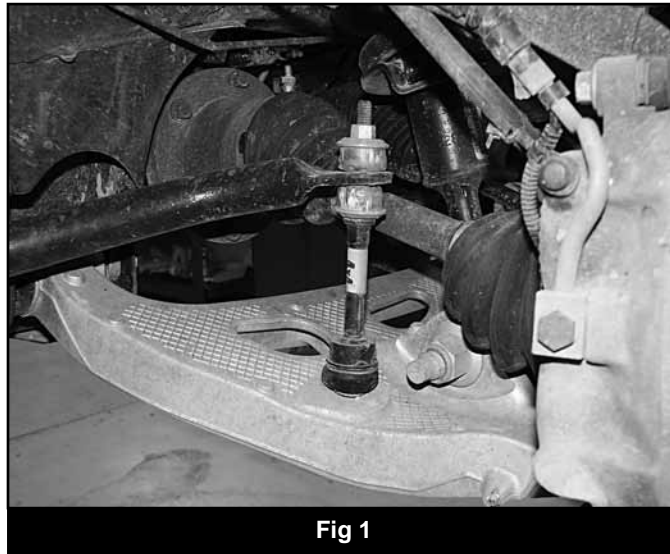

Fig 1
4. Disconnect the driver's and passenger's side sway bar links from the sway bar (Fig 1). Retain link hardware. Note: Different models have different styles. The links will either have a stem or ball joint mount (stem style shown).